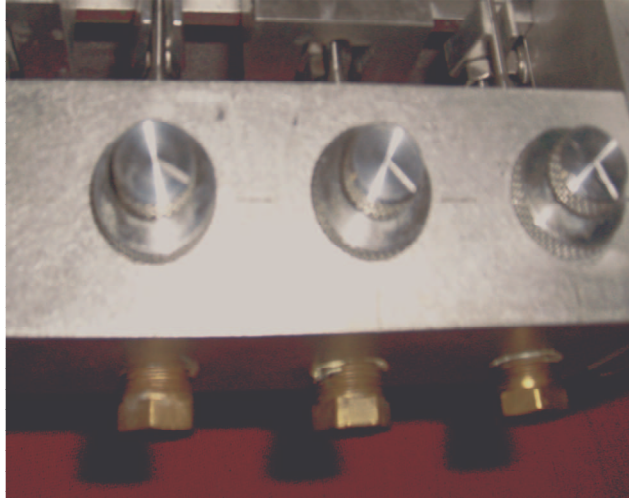

Figure 4
- Turn the needle valve no more than ONE QUARTER TURN in a counterclockwise direction. There are orientation marks on both the manifold and the needle valve. The needle valve orientation mark should be located between the two marks on the manifold when properly adjusted (see *Figure 4*).